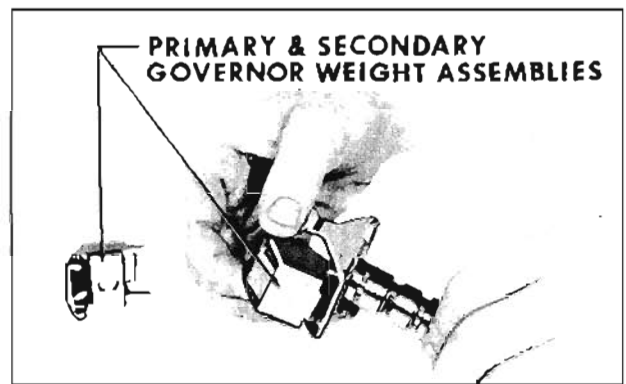

Fig. 6-379 Installing Governor Weights
4. Install primary and secondary governor weights into drive gear and sleeve assembly. (Fig. 6-379)